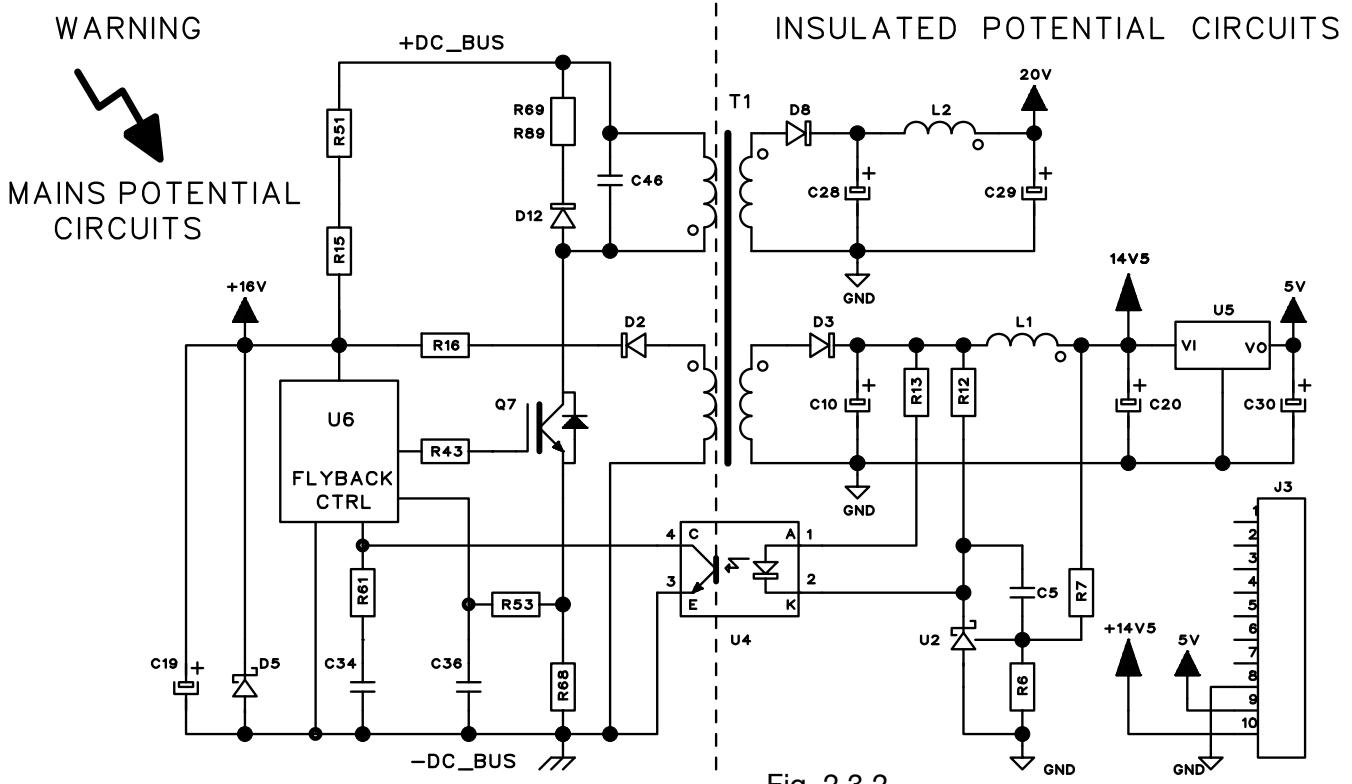

Fig. 2.3.2
These voltages are measurable on the connector J3 and on D8 and D5 diodes cathode, on power board (15), as indicated in Fig. 2.3.2.
- ◆ If the voltage is not present, turn off the power source and make sure there is no interruption in the power board (15) input connections or in the boost converter inductor (13) connection or check the DC-capacitors terminals are not in short circuit. If the case look for the short circuit cause between the following components: boost converter (Q22 ÷ Q24, etc.), flyback circuit (U6, Q7, D12, R69, R89, etc.), DC-capacitors, inverter igbt (Q25 ÷ Q32, etc.). Replace them if necessary.
- ◆ If the voltage remains at +330 Vdc check the boost converter circuits (U3, Q17, Q22 ÷ Q24, D45, etc.) and the voltage on D5 of power board (15), as indicated in Fig. 2.3.2 (flyback and boost converter circuits power supply).
- Power board (15), connector J3, terminals:
as indicated in Fig. 2.3.2 (power board (15) circuits power supply).